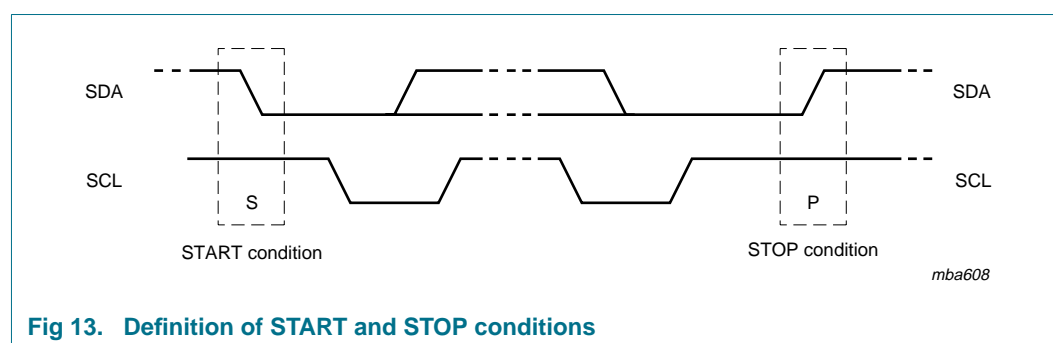

Fig 13. Definition of START and STOP conditions
Both data and clock lines remain HIGH when the bus is not busy. A HIGH-to-LOW transition of the data line while the clock is HIGH is defined as the START condition (S). A LOW-to-HIGH transition of the data line while the clock is HIGH is defined as the STOP condition (P) (see Figure 13).